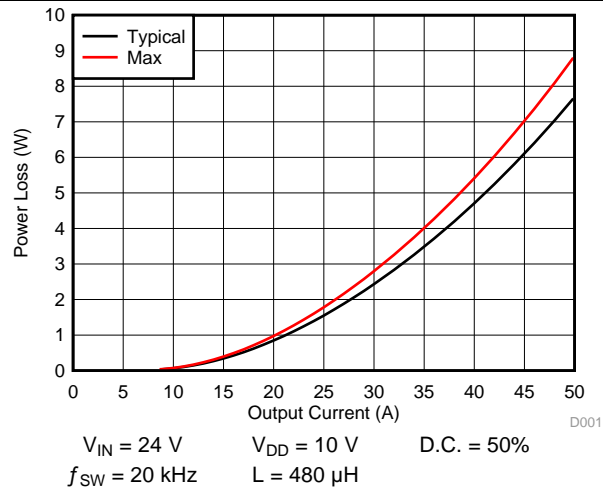

Figure 1. Power Loss vs Output Current
The typical power block system characteristic curves (Figure 1 through Figure 6) are based on measurements made on a PCB design with dimensions of 4 in (W) × 3.5 in (L) × 0.062 in (H) and 6 copper layers of 2-oz copper thickness. See Application and Implementation section for detailed explanation. $T_J = 125^\circ\text{C}$, unless stated otherwise.
Figure 1 plots the CSD88584Q5DC power loss as a function of load current. The measured power loss includes both input conversion loss and gate drive loss.
In the example below, we show how to achieve this for the temperatures $T_C = 124^\circ\text{C}$ and $T_B = 120^\circ\text{C}$. First we draw from 50 A on the Y-axis at 124°C to 120°C on the X-axis. Then, we draw a line up from where this line crosses the T_X line to see that this line intercepts the SOA at 39 A. Thus we can assume if we are measuring a PCB temperature of 124°C , and a top case temperature of 120°C , the power block can handle 39-A RMS, at the normalized conditions. At conditions that differ from those in Figure 1, the user may be required to make an SOA temperature adjustment on the T_X line, as shown in the next section.
- Power loss at 40 A \approx 4.7 W (Figure 1)